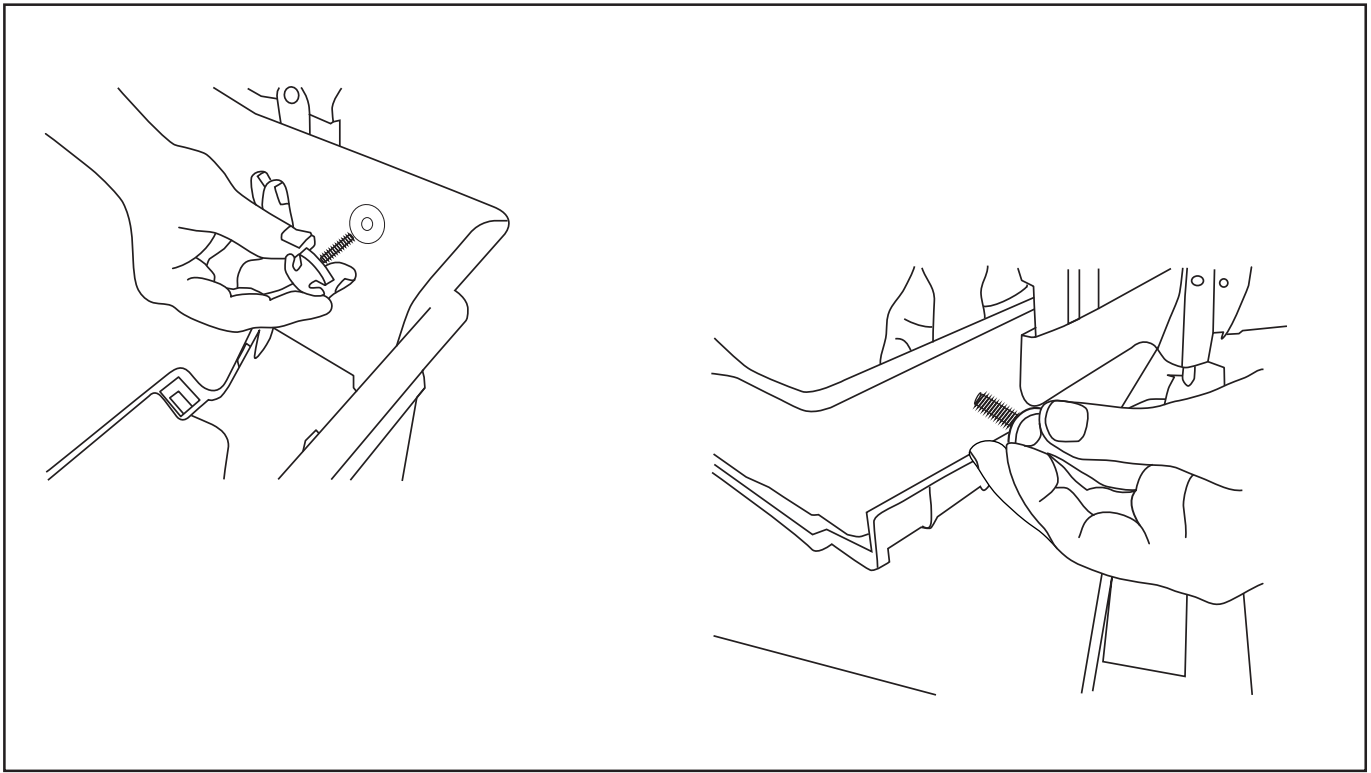

Fig. 14
16. Assemble T-anchor and weld stud on each lower mounting location (Fig. 14).